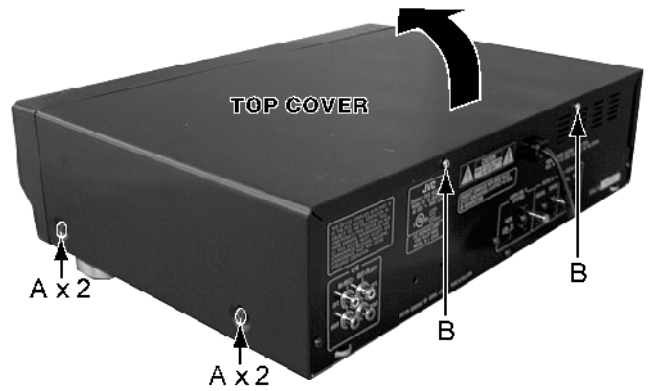

Fig.1
2.1.1 Removing the top cover (see Fig.1)
3.1.1 Removing the servo control board (See Fig.1 to 5)